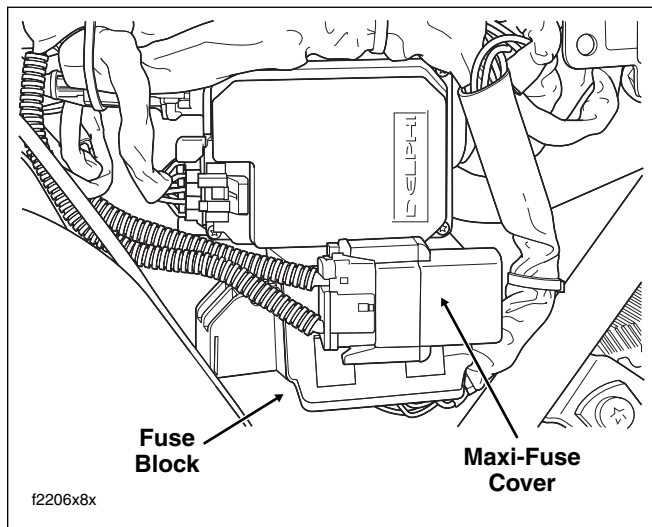

Figure 8-2. Remove Left Side Cover
3. Depress latches on maxi-fuse holder and then slide cover rearward to disengage tongue from groove in fuse block cover. See Figure 8-2.
2. Slide cover forward to engage tongue in groove of fuse block cover and then insert maxi-fuse holder into cover until latches engage. See Figure 8-2.